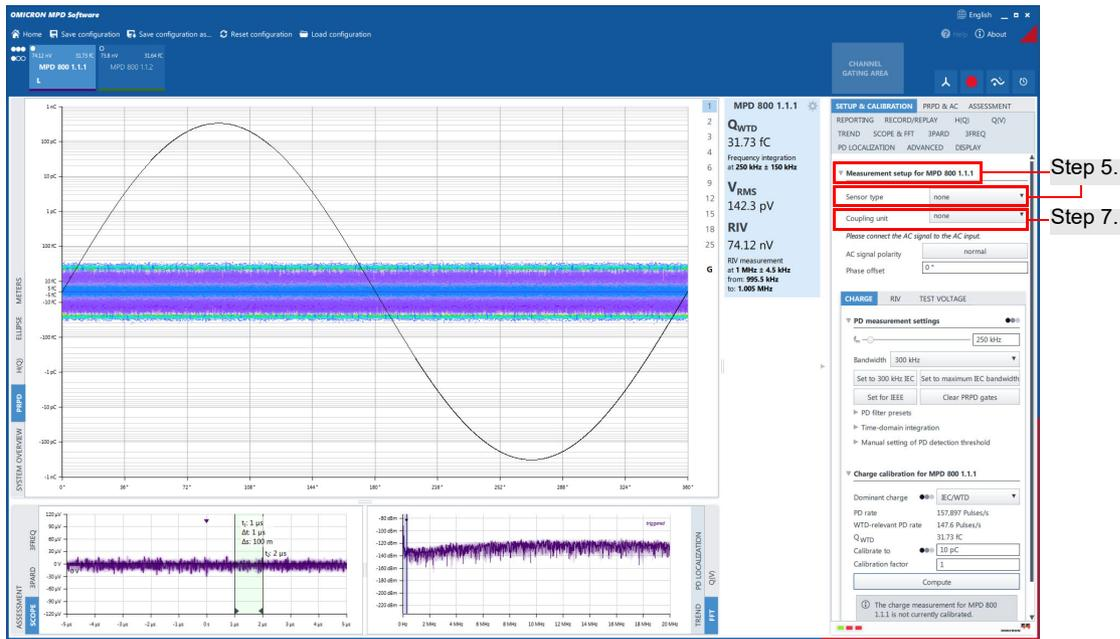

Figure 2-22: Main measurement window
4. Click the **Start measurement** button to switch to the main measurement window (see Figure 2-22).
7. Select the **Coupling Unit** from the drop-down list box (see also Figure 2-22).